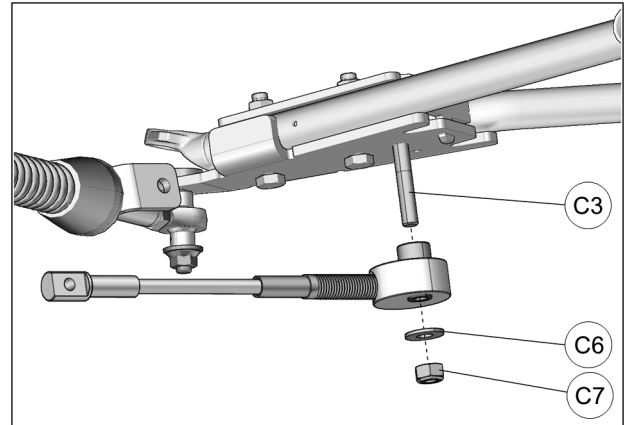

Fig. 25
13. Position steering limiter cable assembly under anchor bracket and slide it over bolt (C3) already inserted. Use washer (C6) and nut (C7) to secure assembly to anchor bracket. Tighten nut to 50 N•m [37 lb•ft]. Refer to Fig. 25